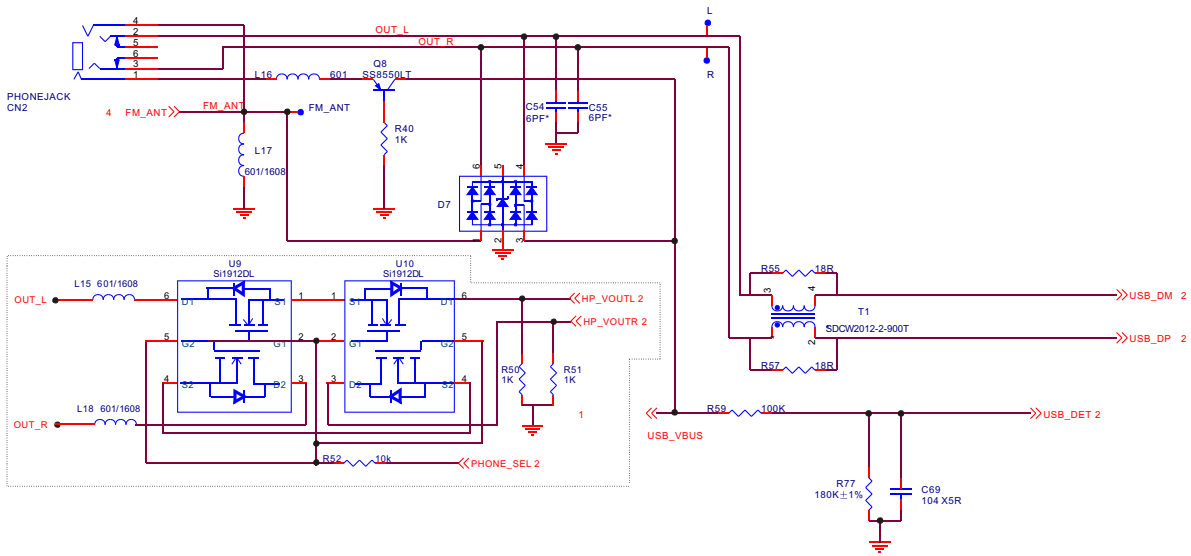

Figure 3.2.5.1 Headphonejack circuit schematic diagram
1. Headphone jack circuit is shown in the figure 3.2.5.1: